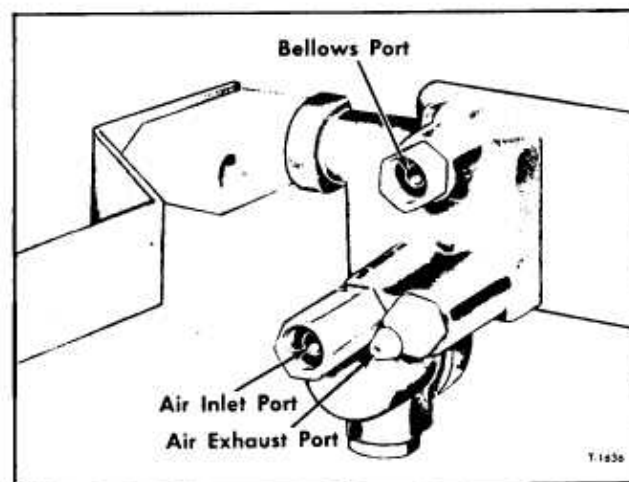

Figure 6—Height Control Valve Ports
2. Referring to figure 6, disconnect air supply line and bellows air line from height control valve. Tape ends of lines to prevent foreign material from entering.